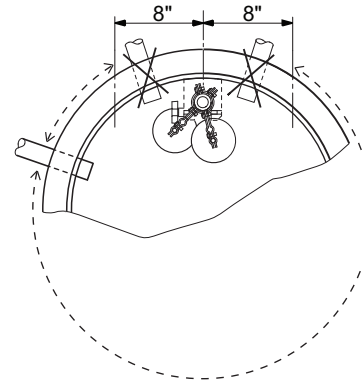

Fig. 18 Location of inlet, PLS.32 - PLS.48
- The tank inlet must not be located within the area shown in fig. 18, as it will disturb the function of the float switches.